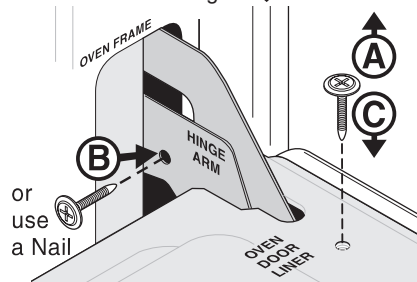

Fig. 2
4. Position rack by tilting front of rack up & pulling rack out from locating holes in rear of broiler drawer. Reposition back of rack in the desired locating holes & allow front of rack to slide down into the corresponding slots in front of broiler drawer (See Fig. 2). **NOTE:** For medium-rare meats, position the rack closer to the burner (upper position). For medium foods use middle position. For well-done foods such as chicken, lobster tails or thick cuts of meat, position the rack further from the burner (lower position).
2. Remove 2 screws located on the inside of the oven door liner (See **A** Fig. 2).
3. Insert the 2 screws into the door hinge holes located on the side of the hinge arm, one into each hinge (See **B** Fig. 2).
5. Reinstall the 2 screws into the door liner (See **C** Fig. 2).